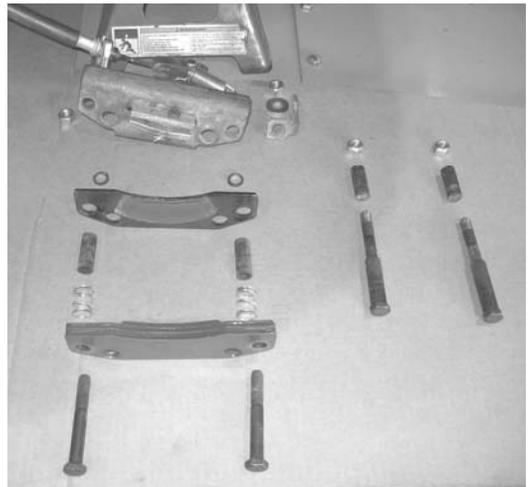

Fig R5 - disassembly
4. Remove the two outer bolts to disassemble caliper. (See Fig R5) **Be careful to keep all nuts, washers and sleeves.**
5. Insert outer bolts through the new thick outer brake pad. Place spacers over bolts and new springs over spacers. Place new thin inner brake pad over bolts and spacers. (See fig R5)
- o **If you could not move the 0.030 inch gauge, disassemble the brake and add 1 shim washer to each assembly bolt (see fig R5).** Repeat steps 6&7
- o **If you *could* move the 0.055 inch gauge across the full width, disassemble the brake and remove one shim washer from each assembly bolt (see fig R5).** Repeat steps 6, 7 & 8.